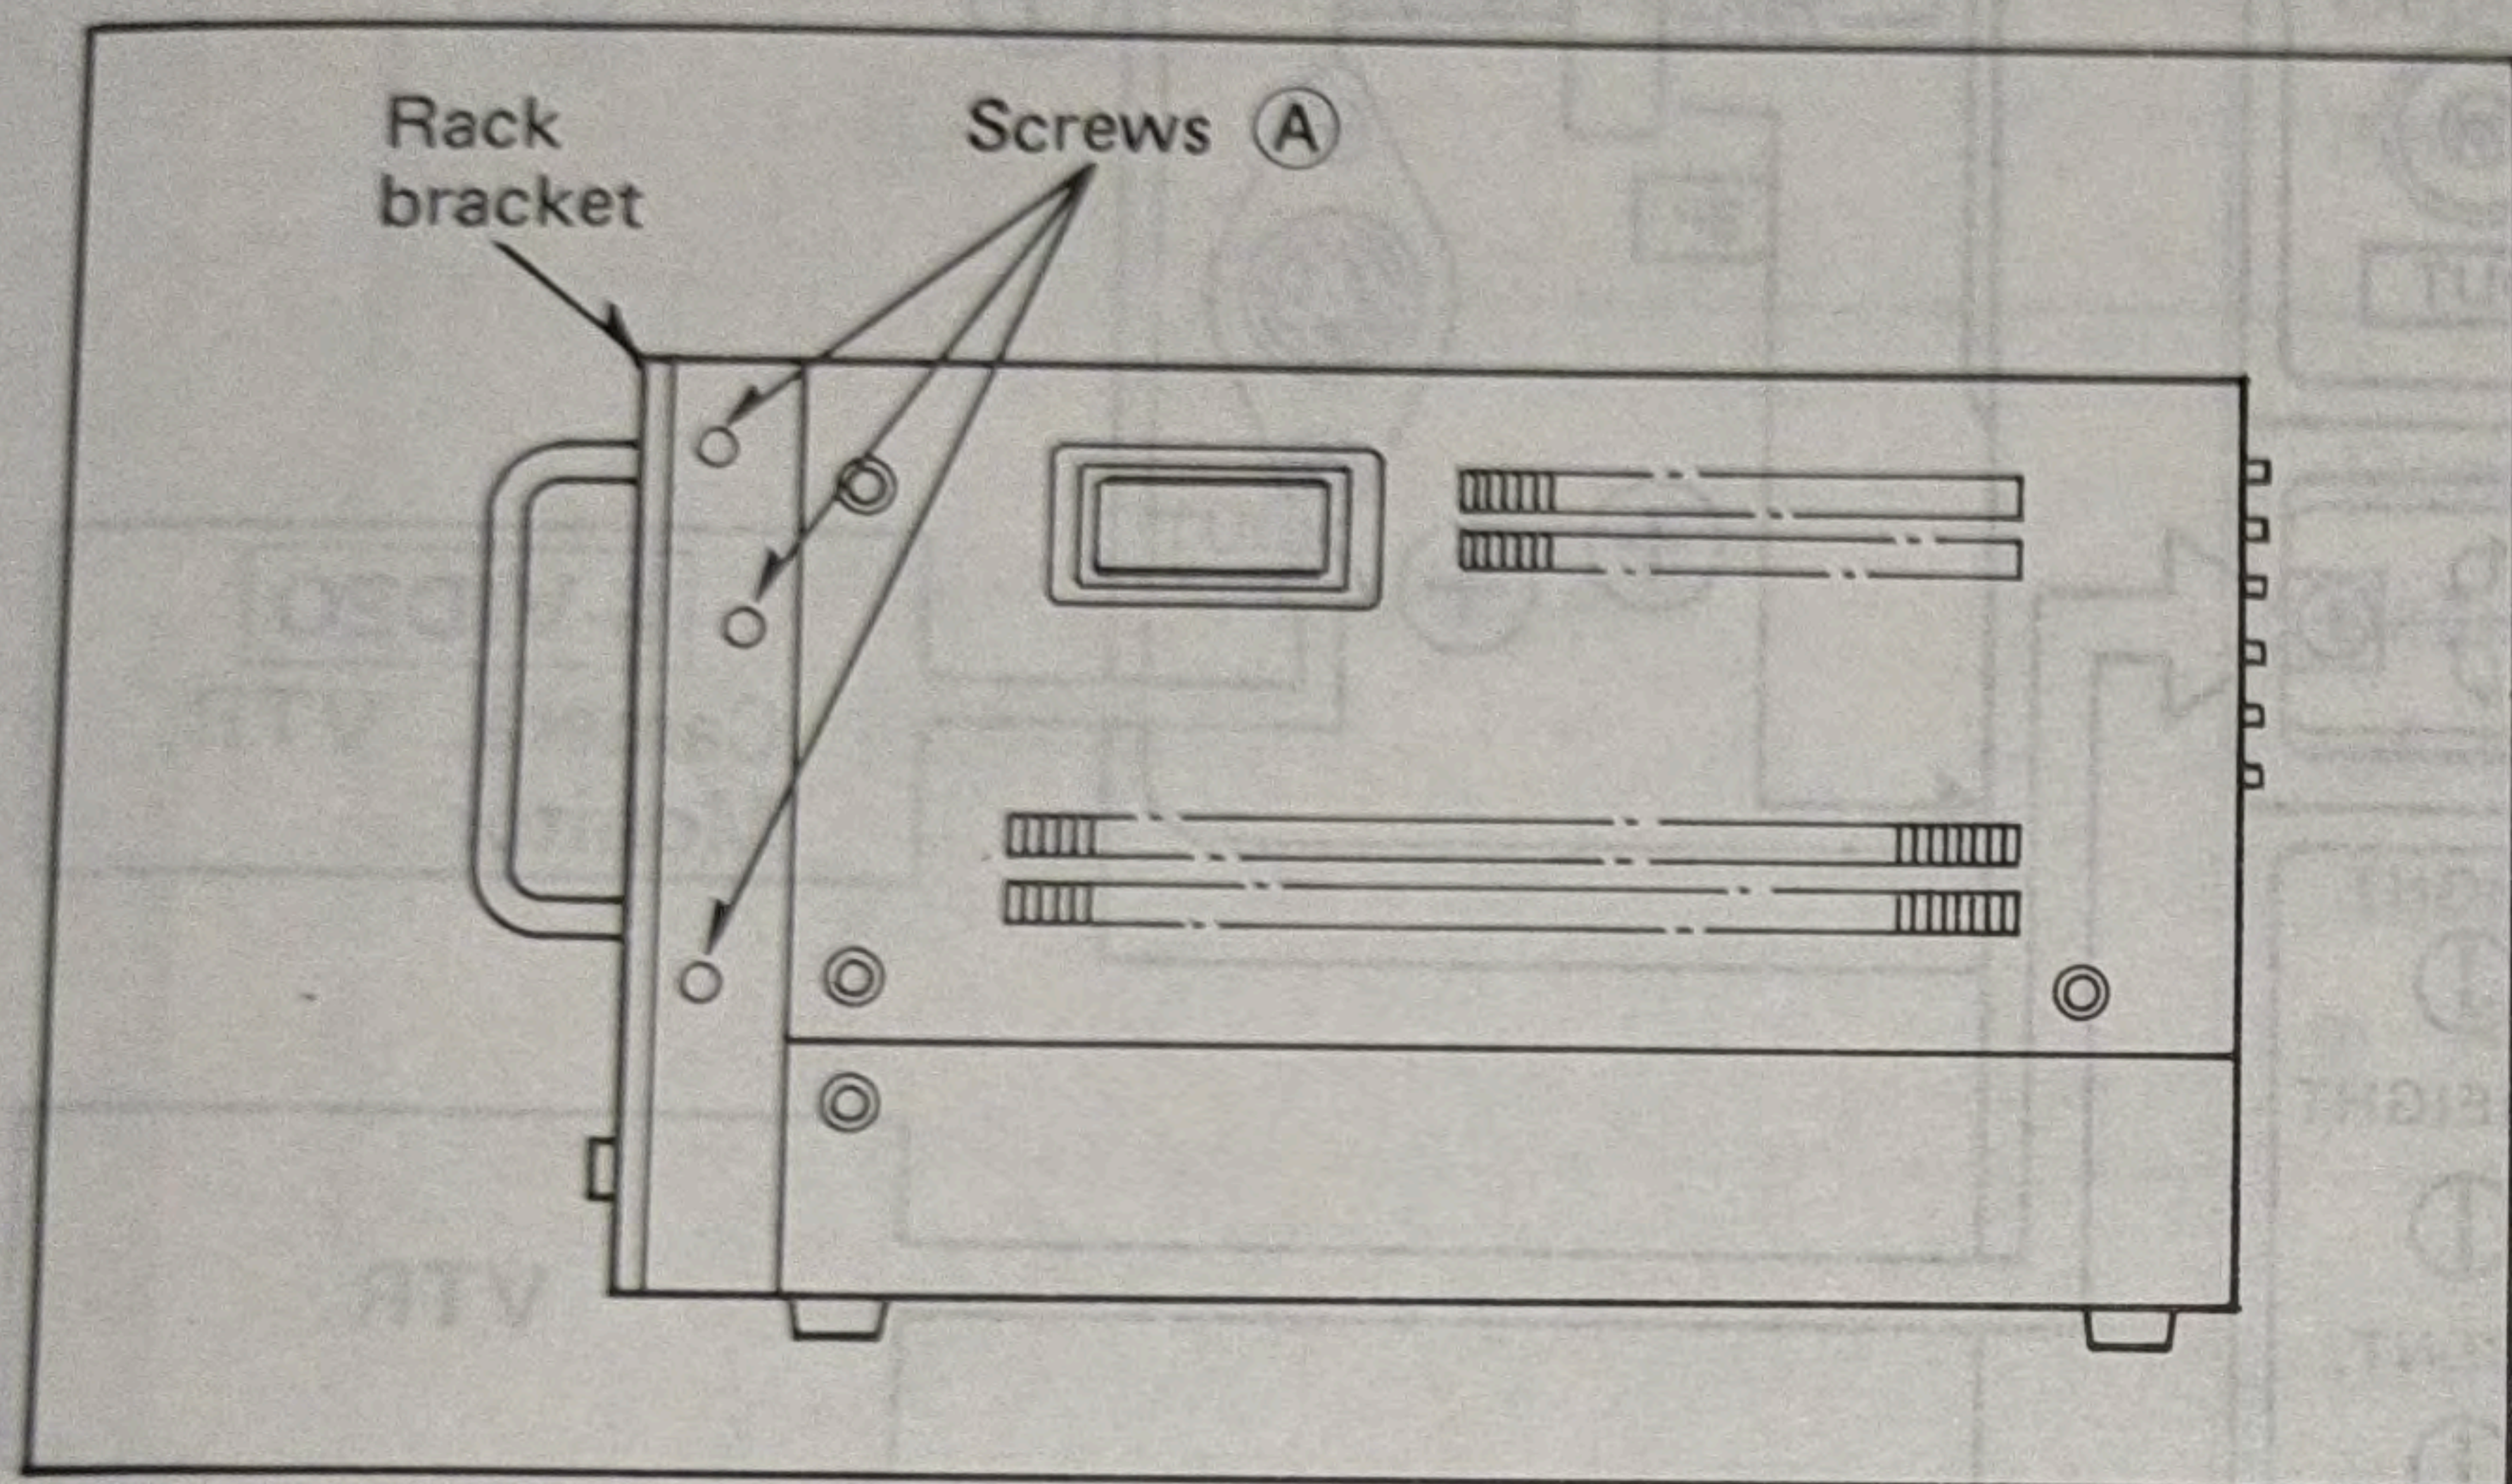

Fig. 1
1. Mount and secure both the right and left rack brackets (attached to BT-M1310Y) on the unit using 3 screws (A) each (Fig. 1).